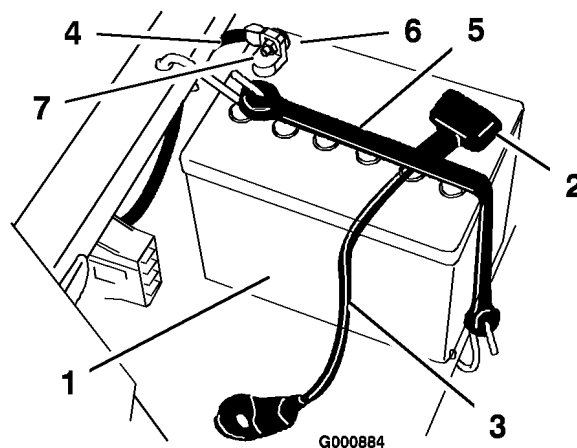

Figure 31
4. Disconnect the negative (black) ground cable from the battery post (Figure 31).
5. Slide the rubber cover up the positive (red) cable. Disconnect the positive (red) cable from the battery post (Figure 31).
6. Remove the battery hold-down (Figure 31) and lift the battery from the battery tray.
1. Position the battery in the tray with the terminal posts away from the control panel (Figure 31).
4. Secure the cables with 2 bolts (1/4 x 3/4 inch), washers (1/4 inch), and nuts (1/4 inch) (Figure 31).
6. Secure the battery with the hold-down (Figure 31).